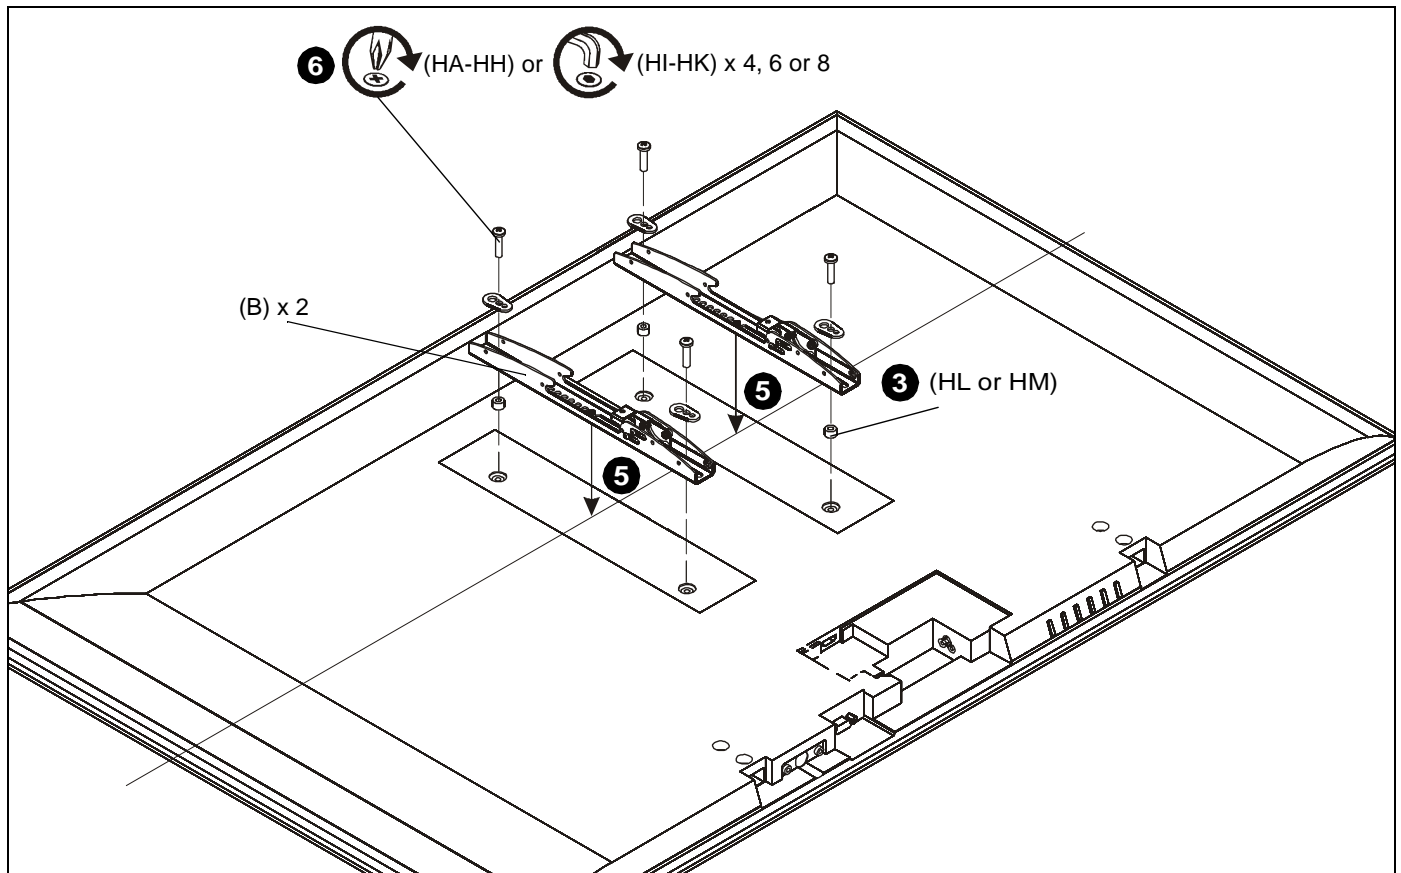

Figure 3
2. Select screw *diameter* by examining hardware (HA-HK) (4mm, 5mm, 6mm or 8mm) and comparing with mounting holes on display. (See Figure 3)
3. Select spacers: (See Figure 3)
- If mounting holes are not recessed and both uprights (B) can lay flat against display, then no spacers are required.
- If mounting holes are recessed, or if protrusions prevent uprights (B) from laying flat, then spacers (HL or HM) must be used.
4. Select screw *length*: (See Figure 3)
- Using your hand, insert **SHORTEST** length screw of selected diameter (HA, HD, HG or HI) through universal washer (HN), uprights (B), selected spacer (HL or HM), into display mounting hole. Do **NOT** thread screw into hole at this time.
5. Place uprights (B) on display, ensuring: (See Figure 3)
- Center of uprights (B) are as close to the center of the back of display as possible after being installed. Center of bracket is indicated by the diamond-shaped hole.
6. Use selected screws and spacers to install two interface uprights (B) to back of display. (See Figure 3)